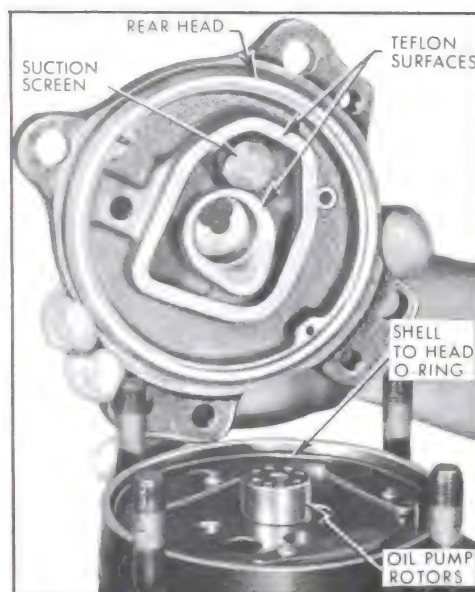

Figure 11-117—Rear Head
12. Examine teflon surface on the rear head casting webs. If any damage is observed, the head should be replaced. See Figure 11-117.